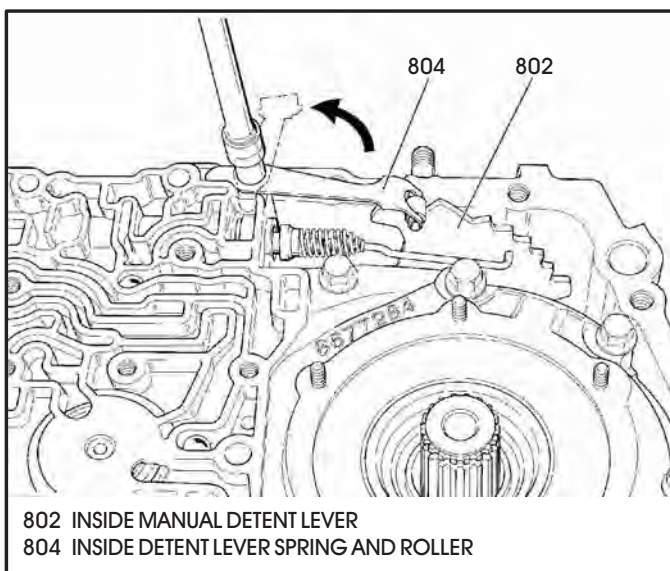

Figure 58
32. Loosen the manual detent spring retaining bolt and swing manual detent spring and roller, as shown in Figure 58.